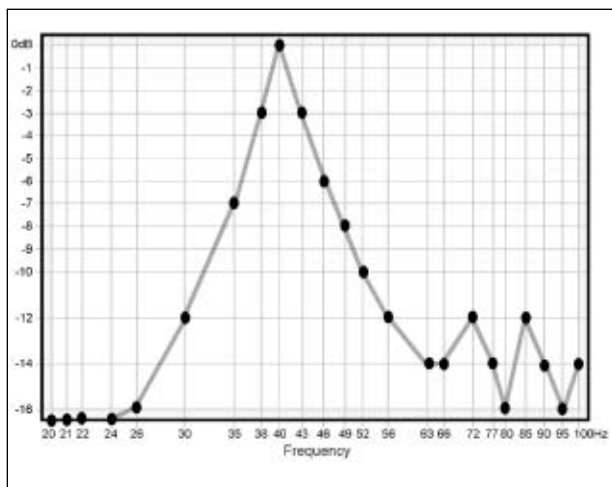

Figure 18. Narrow response
1. Select a new test position: Cue the test track corresponding to the center frequency of the dip. In the first example in Figure 18, you would play Track 13 (56Hz). Press **Play ▶**. You will see a reading very close to what you had before. Now slowly move the RSLM around the area, if possible remaining within about a foot of the original test point. As you move the RSLM, watch the bar graph. You will observe large level fluctuations. Find a position that restores the level to approximately that of the adjacent test points. You may find it helpful to move the RSLM vertically. Dips can be oriented in any axis. The position that restores the level to about that of the adjacent test points is your new test position.